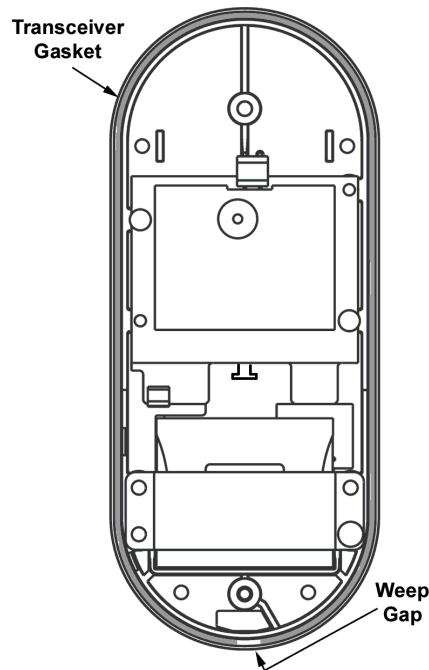

Figure 2-47 – MIRL Transceiver Gasket
2.19.2 If the Transceiver Gasket (Figure 2-47) is not already mounted on the Transceiver Base Plate, position the Transceiver Gasket in the outer groove of the Transceiver Base Plate making certain that the ends of the Reader Gasket are at the bottom of the base plate and that there is a Weep Gap.